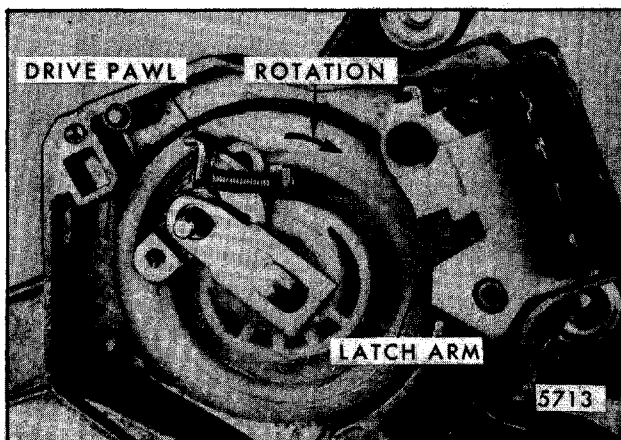

Fig. 2-60-Gear in Normal Run Position
1. The gearbox relay coil circuit is opened allowing the spring-loaded relay latch arm to move out into the path of the gear mechanism (Fig. 2-60). However, the gearbox relay switch contacts are still closed and therefore the B plus circuit to the pulse relay is still maintained.
3. If wiper gear drive pawl is not in full park position (Fig. 2-60), remove relay attaching screw (Fig. 2-91) and lift relay-terminal board assembly out of gearbox.